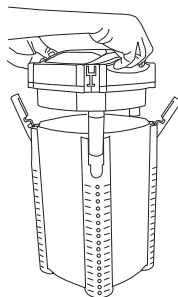

Fig 2
3. Lift the head unit off the canister body. Place it somewhere safe where it will not be stepped on or broken. Fig 2